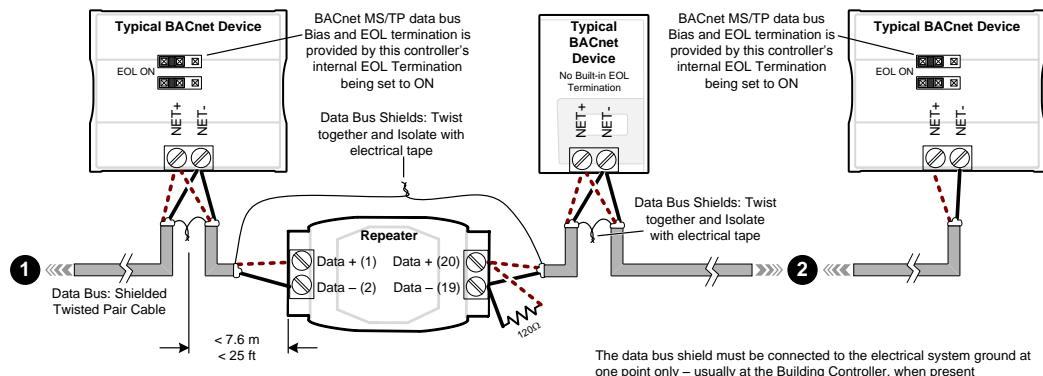

Figure 11-14: Repeater Connections when it is the First or Last Device on its Respective Data Bus Segment
1. On the BACnet MS/TP data bus segment ① shown in Figure 11-14, bias and EOL termination is provided by a controller's built-in EOL termination being set to ON. In this case the connection to the repeater cannot be more than 7.6 meters (25 feet) from this controller.
2. On the BACnet MS/TP data bus segment ② shown in Figure 11-14, a 120Ω EOL Termination resistor is added to the repeater's terminals. Biasing for this BACnet MS/TP data bus segment is provided by the built-in EOL termination being set to ON at the last controller at the other end of this data bus.
See When to Use EOL Terminations on page 116 for more information. The shield of one data bus must be grounded at one point as specified in Data Bus Shield Grounding Requirements on page 119. The shields of the two data buses must be connected together and isolated with electrical tape as shown in Figure 11-14. Refer to the controller's Hardware Installation Guide for how to identify and set a controller's built-in EOL terminations.